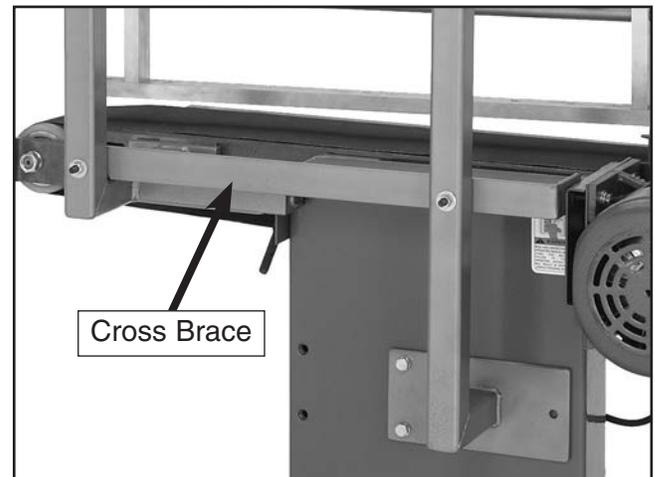

Figure 8. Cross brace placement.
7. Install the cross brace as shown in **Figure 8** with three $\frac{5}{16}$ "-18 x $2\frac{1}{2}$ " hex bolts, six flat washers, and three hex nuts.